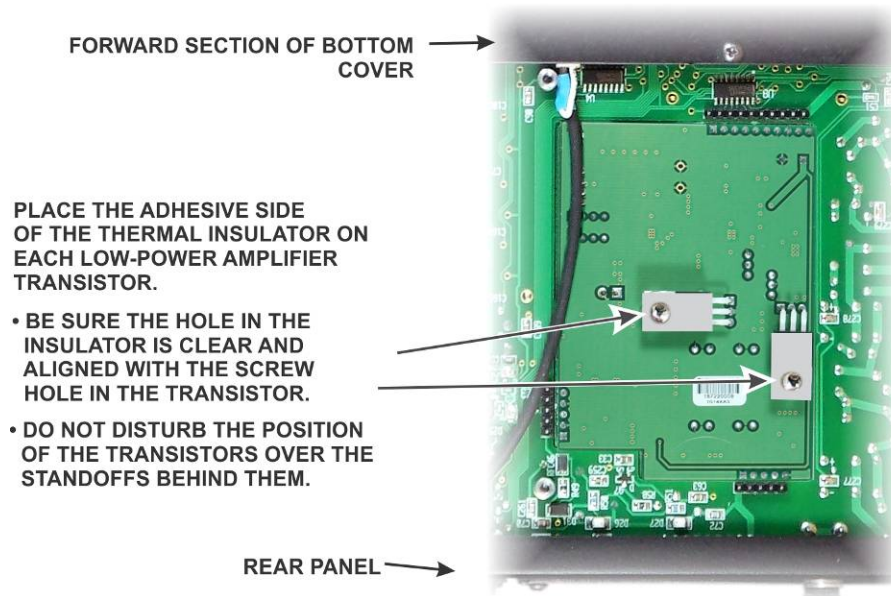

Figure 98. Installing the KLPA3A Transistor Thermal Insulators.
□ Locate the two thermal insulators and clear the screw holes. They are already cut. If material is still covering the holes, push a small tool through the hole to remove the unwanted material. Remove the protective backing from each insulator and press the adhesive side against a low-power amplifier transistor with the hole in the insulator aligned with the screw hole in the transistor as shown in Figure 98. Take care not to disturb the position of the transistors over the standoffs.